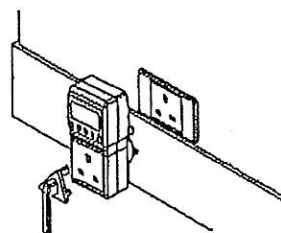

Figure 3 2000M Installation Diagram
1. Installation: (refer to figure 3)